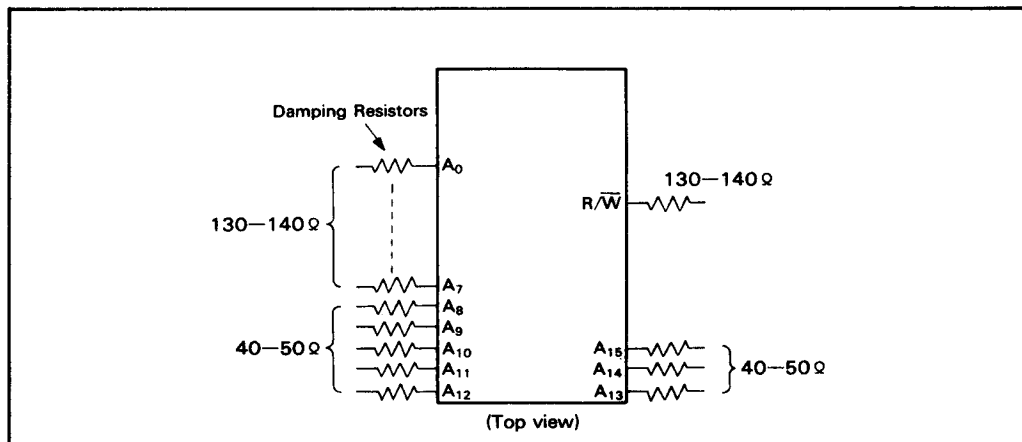

Figure 22. Connecting Damping Resistors to Address Bus
4. Insert the damping resistors to the address bus. That is effective for the noise level to reduce less than 0.8 V. The damping resistor is about 40-50 Ω on the higher byte of the address bus ($A_{15} - A_8$) and about 130-140 Ω on the lower byte of the address bus ($A_7 - A_0$), and R/\bar{W} as shown in figure 22. Electrical characteristics do not change by inserting the damping resistors.